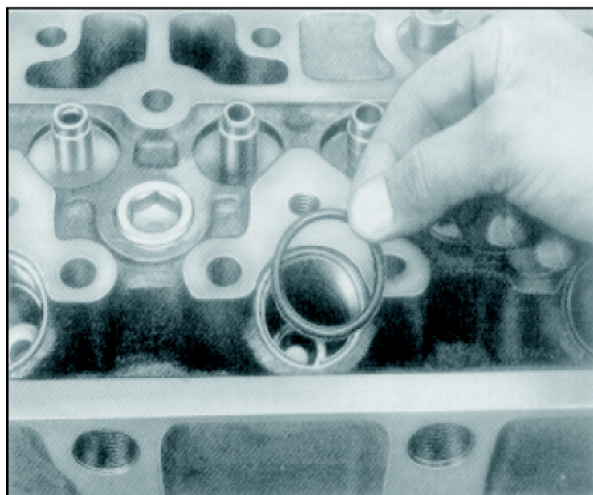

Fig. 18
1. Apply a light coat of grease/oil to new sealing ring and place it in cylinder head. Fig. 18.